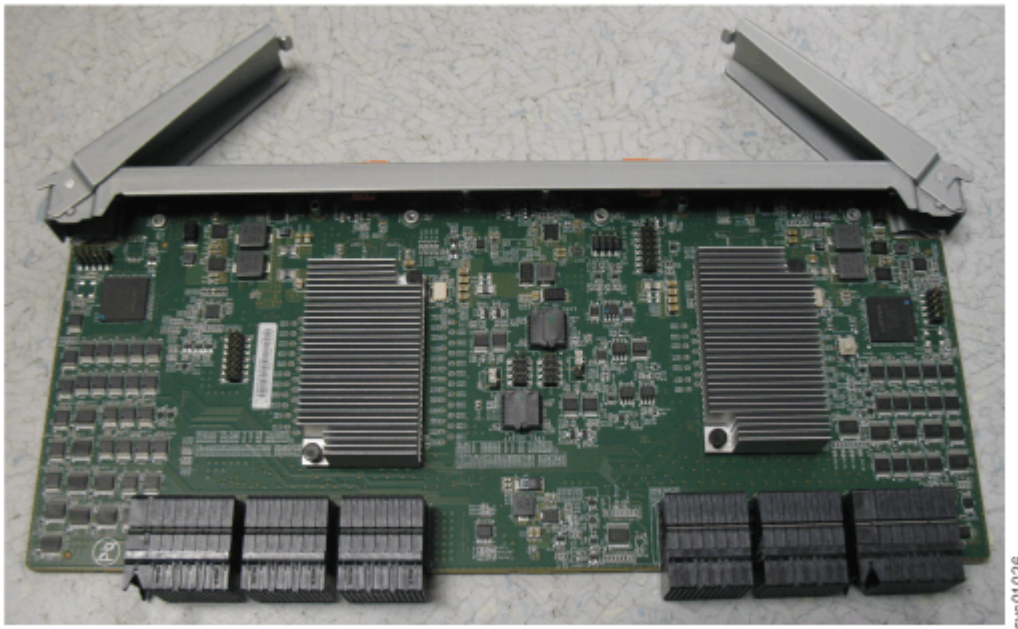

Figure 122. Secondary expander module removed from the enclosure
5. Place the secondary expander module in a safe location, as shown in Figure 122 on page 160.